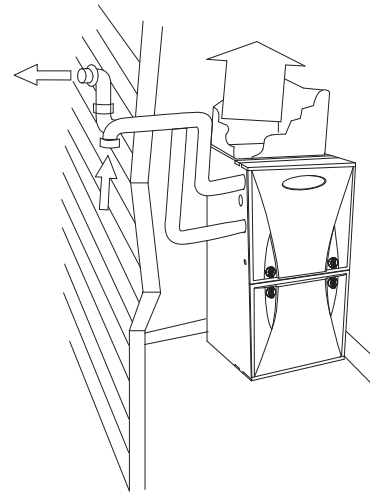
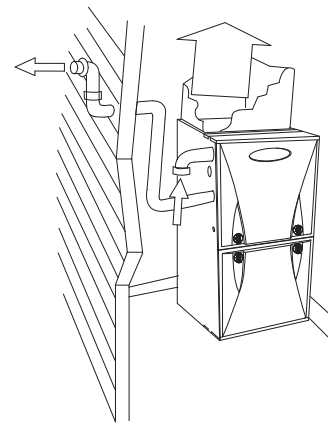

Fig. 2 – Exterior Vent Pipes
Fig. 3 – Interior Combustion - Air Pipe
- Your new gas furnace may have been installed in one of two ways, as a direct-vent (2-pipe-Fig. 2) application or as a non-direct vent (1-pipe-Fig. 3) application.
- **In a direct-vent (2-pipe) application**, your furnace uses air from outside the home for combustion and vents flue gas to the outdoors. This type of application will have two pipes running from the furnace to the outdoors. In some cases, the inlet air pipe may be located in an area that has access to outdoor air, such as an attic. In all cases, the outlet vent pipe must be routed to the outdoors (see Fig. 2). In this application, the vent and air-intake pipes must terminate outside the structure and must not be obstructed in any way. Do not block or obstruct air openings on furnace or spaces around furnace.
- **In a non-direct vent (1-pipe) application**, your furnace uses air from adjacent to the furnace for combustion and vents flue gas to the outdoors. This type of application will have only one pipe running from the furnace to the outdoors (see Fig. 3). The other pipe will terminate in the same space as the furnace and is the source of combustion air for your furnace. Therefore, the furnace must not be enclosed in an airtight room or be sealed behind solid doors. It must have adequate airflow for efficient combustion and safe ventilation. Do not obstruct the combustion-air pipe in any way. The vent pipe must terminate outside the structure and must not be obstructed in any way. Do not block or obstruct air openings or space around furnace.